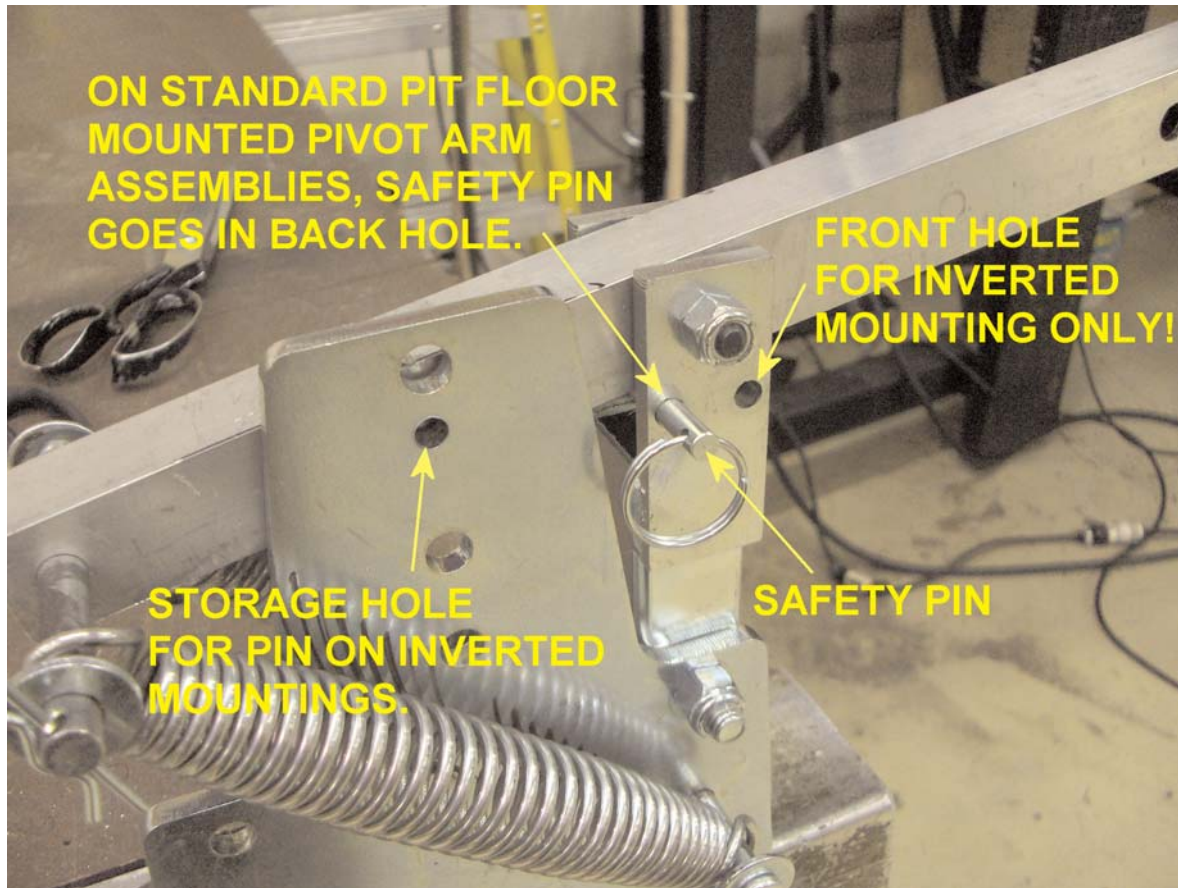

FIGURE 34
2. Loosen and remove the nylock nuts on the (2) bolts that hold the pivot arm assembly to pit floor mounting bracket.
6. Reinstall springs and all pins. Make sure the washers are on the outside of the springs. One pin goes into hole at end of aluminum arm, the other pin goes into the hole between the (2) bolts. If properly installed, there should be no tension on the springs after hooked on pins. (Make sure safety pin is installed.) See Figure 34.